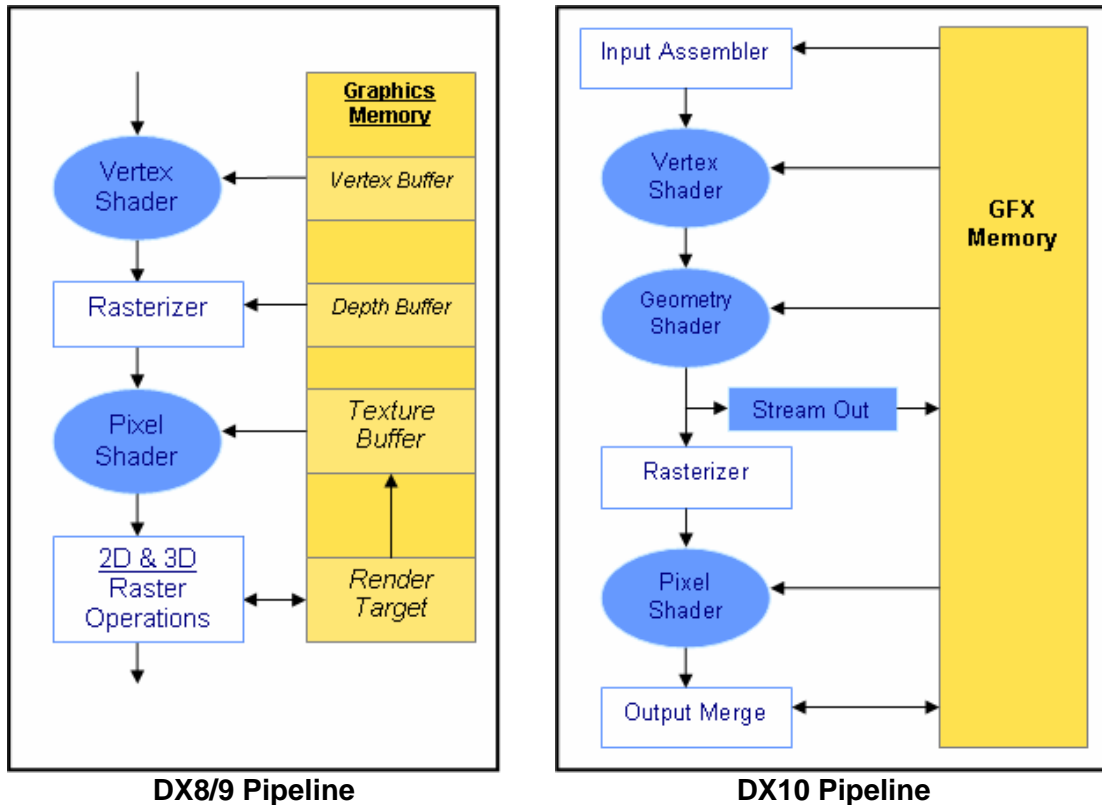

Figure 4. DX8/9 Pipeline Compared to DX10 Pipeline
Figure 4 shows a DX8/9 pipeline (left) compared to the pipeline provided in DX10 hardware. Common functional units, such as the vertex/pixel shaders, rasterizer, and ROP/Output Merge (OM) block, exist in both architectures and perform similar functions. The Input Assembler (IA) converts or replicates input vertex data from incoming streams (vertex structure) to be used by the pipeline. The key difference is the introduction of the Geometry Shader (GS) and Stream Output (SO) described below.
- The **Geometry Shader (GS)** takes the vertices of a primitive, such as a line, point, or triangle, and will either create additional vertices (generate data) or destroy the vertices. The GS increases the number of vertices by creating additional primitives composed of up to 1024 32-bit vertex data per instance. If a vertex is not needed, the GS can delete it from the rendering pipeline. The GS can also add additional elements to a primitive without needing to create a new vertex stream. In the past, the pipeline could not create or destroy vertices, only modify them. DX10 moves one step ahead by allowing even more flexibility and power in hardware, where the GS performs per-primitive modifications and also accesses adjacent primitive information. For example, in a GS implementation for a realistic shadow rendering, the GS can control a point or line and its neighboring primitive, as well as control the displacement mapping, where more detail can be shown with the creation of new primitives based on height maps.
DX10 introduces a unified architecture that builds upon the pipeline diagrammed in Figure 4. The DX10 pipeline combines three types of shaders into unified execution units capable of handling VS, GS, and PS instructions. The DX10 pipeline architectural design has solved many issues seen in previous generations of DirectX. It has added significant changes to the software, instruction set, instruction support/capability, as well as requiring new hardware blocks and features.